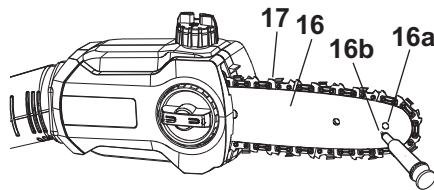

Fig. 35
**NOTE:** It is not necessary to remove the saw chain (17) to lubricate the sprocket wheel (16a). Lubrication can be done on the job.
2. Using a disposable lube gun, insert the needle nose into the lubrication hole (16b) (Fig. 35) and inject grease until it appears at the outside edge of the sprocket wheel (16a).